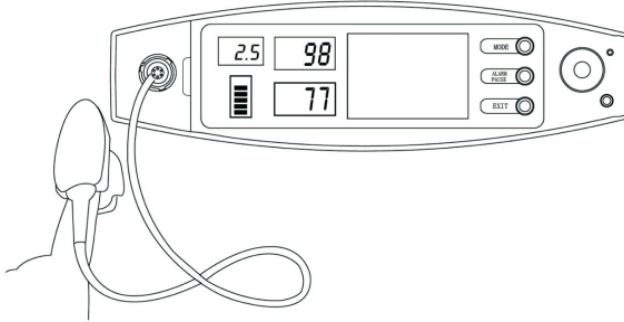

Figure 4. Sketch map for finger placement
- 🔔 The finger should be placed correctly(see Attached figure 4), as improper installation or improper contact position for sensor will influence the measurement.
Put the finger into the probe as Figure 4.
(The appearance of actual probe may be different with the one shown as Figure 4, please refer to the actual probe.)